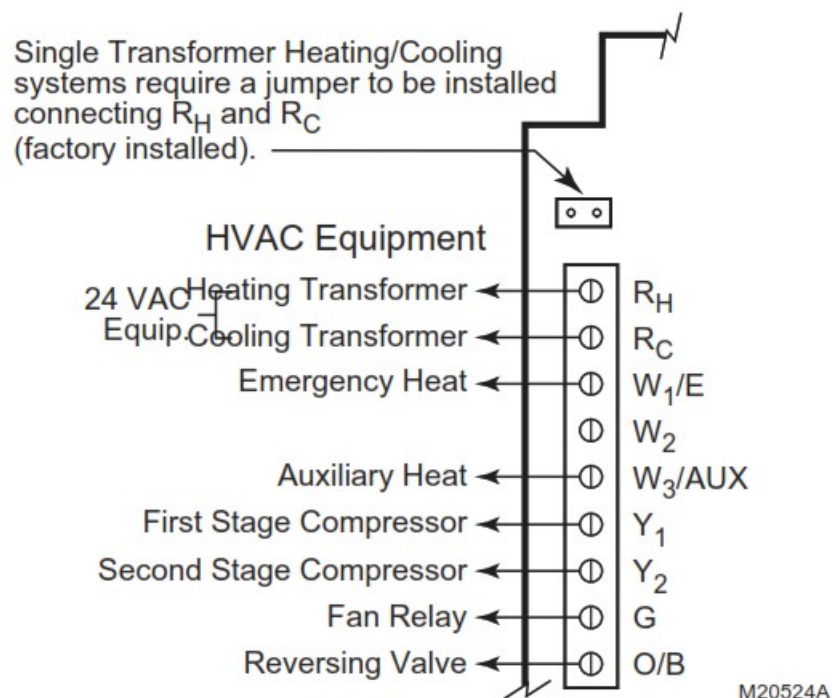

Fig. 20. Wiring two-stage heat pump with separate auxiliary and emergency heat.
- Wire emergency heat to W1/E, see Fig.20.